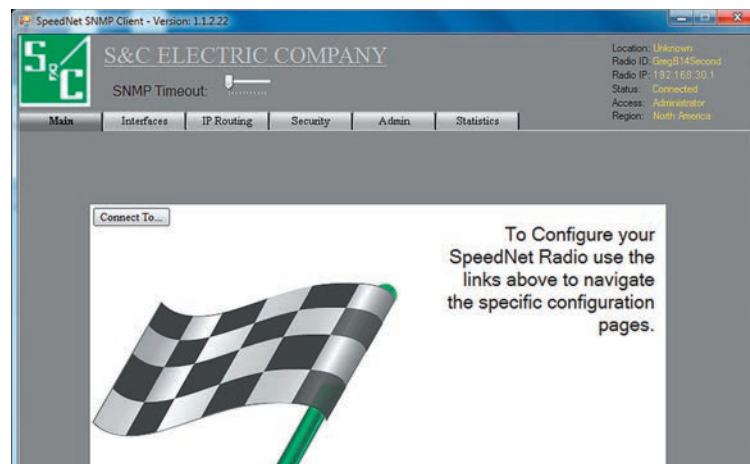

Figure 26. Main screen for SpeedNet Radio configuration.
STEP 11. The *Main* screen will open, as shown in Figure 26. Click on the **Interfaces** tab.